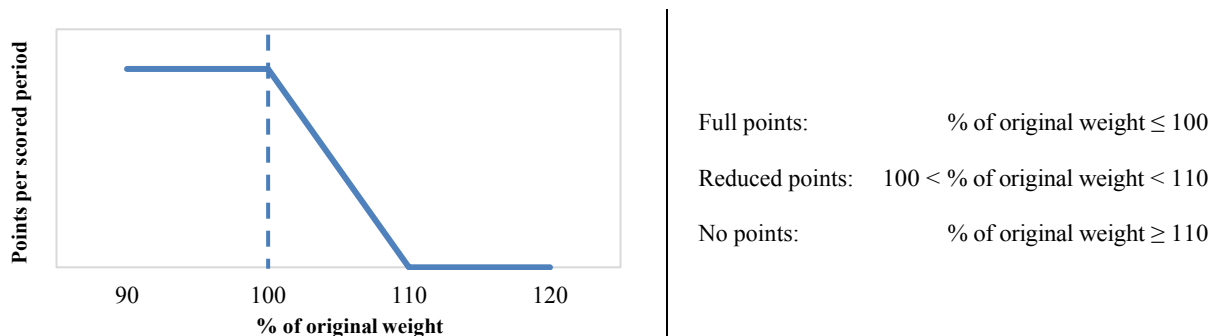

Figure 8 Scoring function for the Clothes Drying Subcontest
- a. Reduced points are earned if the “dry” towel weight is between 100.0% and 110.0% of the original towel weight. Reduced point values are scaled linearly, as shown in Figure 8.